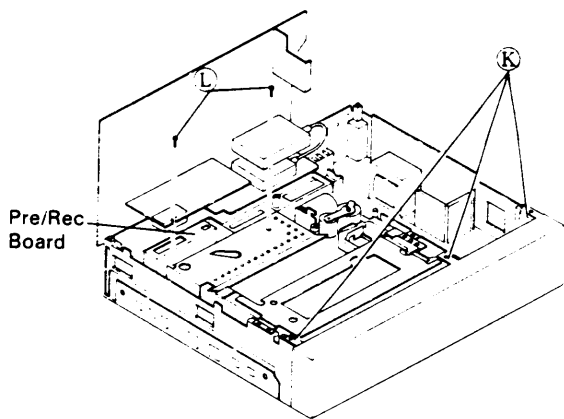

Fig. 1-1-6
- 2) Refer to Fig. 1-1-6 take out 2 screws (L) and remove the drum shield.